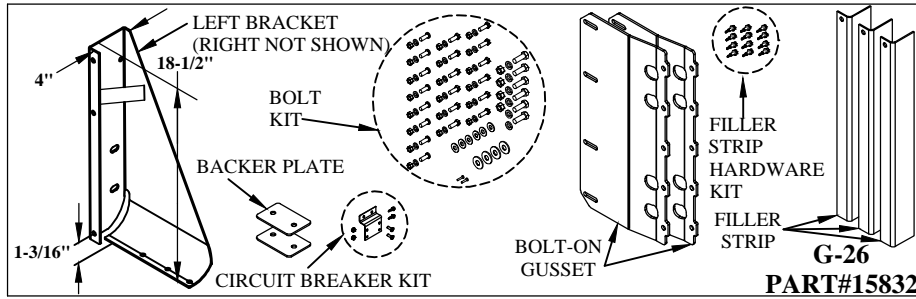

Figure 1: G-26 Part Identification.
2. Verify mounting bracket kit (Figure 1 and Table 1).